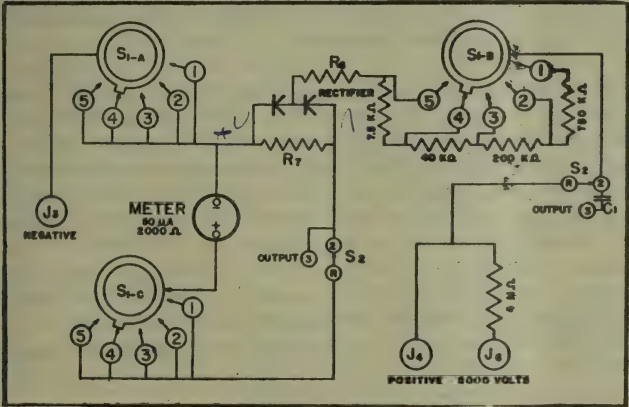

FIG. 4 AC VOLTAGE CIRCUIT
Fig. 4 is a schematic diagram of the internal connections for d-c current measurement. Note that the function switch, S2 is set at DC-OHMS (1) when the instrument is to be used as a d-c current meter. The four positions of the